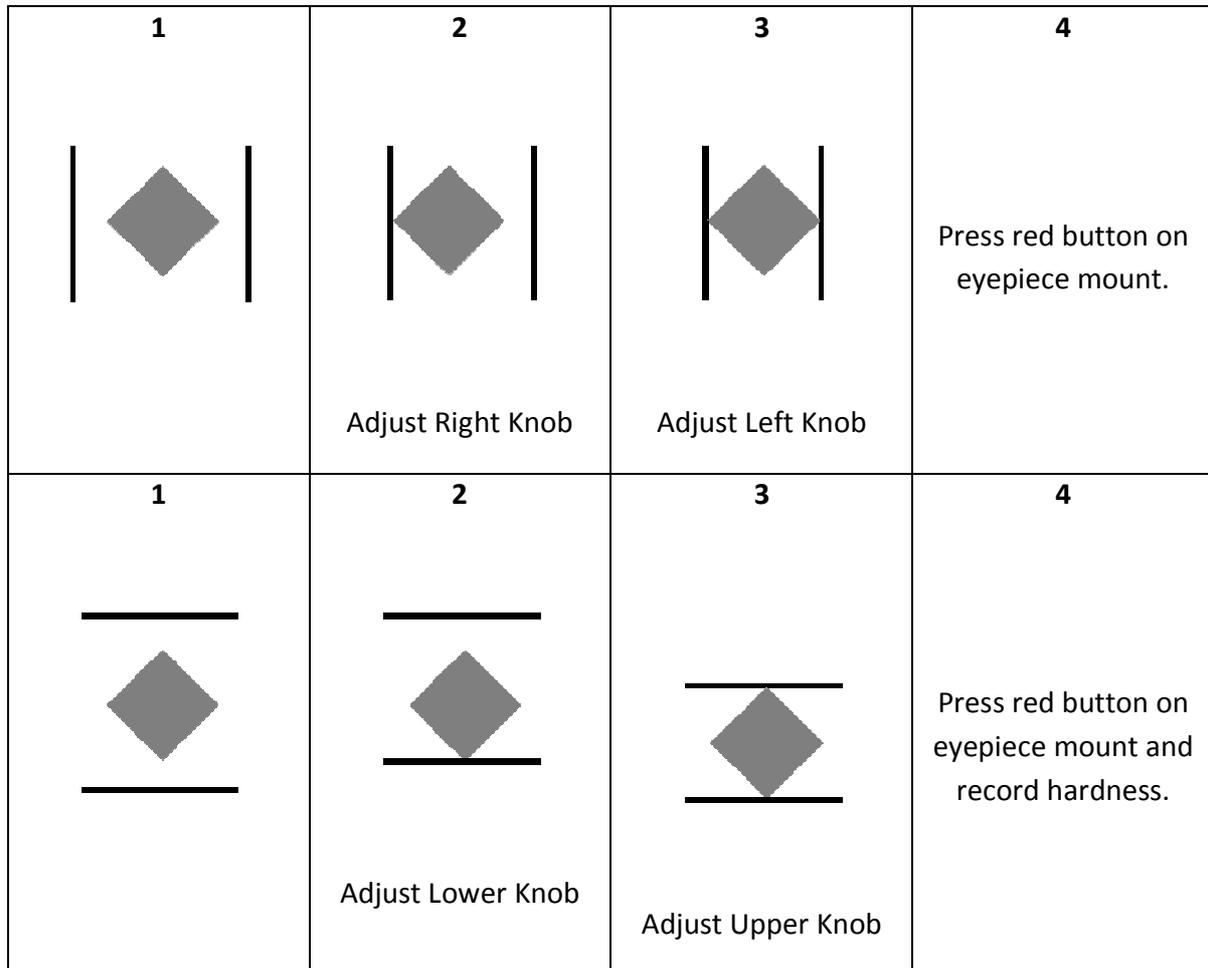

Figure 3. Measuring the size of an indent through the eyepiece.
- To measure the indent, adjust the left knob on the eyepiece mount until the left black vertical line JUST touches the left vertex of the indent. Then adjust the right knob on the eyepiece mount until the right black vertical line JUST touches the right vertex of the indent. See Figure 3. Then press the red button on the eyepiece mount once.